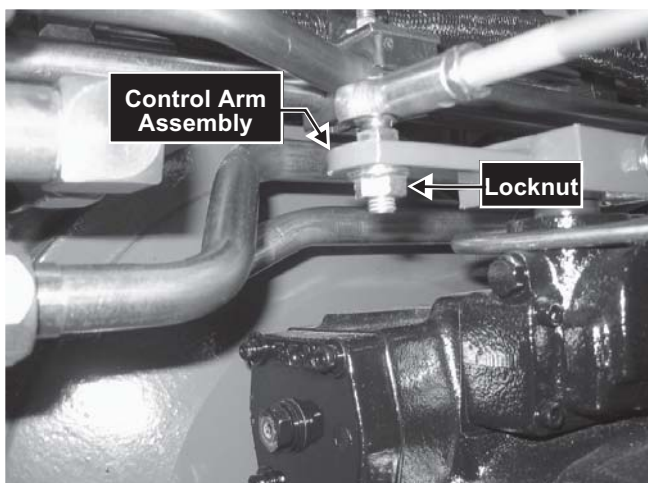

Fig. 6-47 View of locknut securing control rod to control arm assembly.
1. Remove the locknut on each rod end attached to the two control arm assemblies and slide rod ends out of the control arms. **Fig. 6-47 and 6-48**